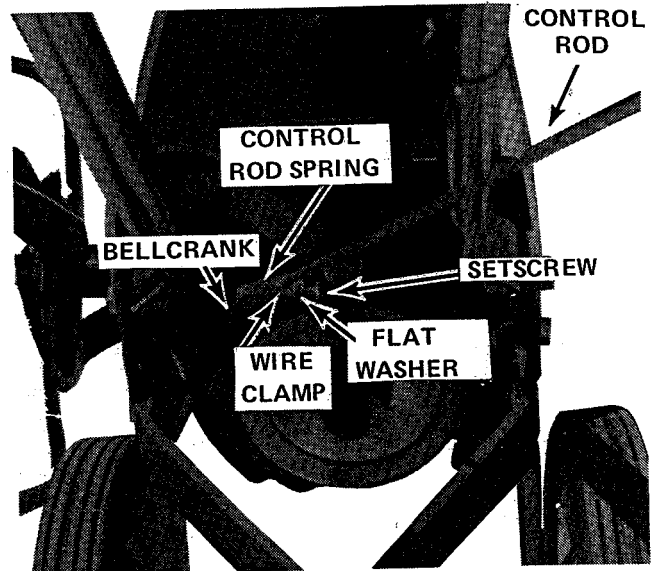

Figure 6.
- a. See Figure 6. Attach forward control rod springs to bellcrank.
- b. See Figure 6. Slide forward control rod through wire clamp and inside spring. Loosely secure rod in clamp with setscrew and flat washer. Hook loose end of spring between flat washer and clamp.
- c. See Figure 6. Adjust spring tension by loosening clamp setscrew and moving clamp on control rod. Idler pulley should be 1/4-inch from frame when clutch disengaged (handle released). See Adjustments section of this manual for clutch adjustment procedure.
3. See Figure 6. If clutch does not operate as described above in steps 1 and 2, loosen wire clamp setscrew and adjust wire clamp on control rod to obtain required spring tension.